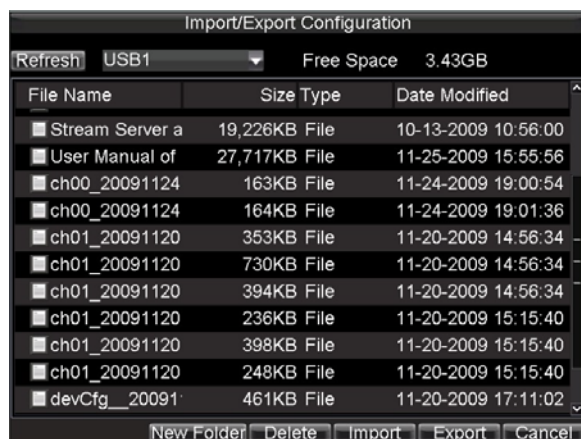

Figure 10. Import/Export Configuration Menu
1. Enter the Import/Export Configuration menu, shown in Figure 10 by clicking Menu > Maintenance > Configuration.